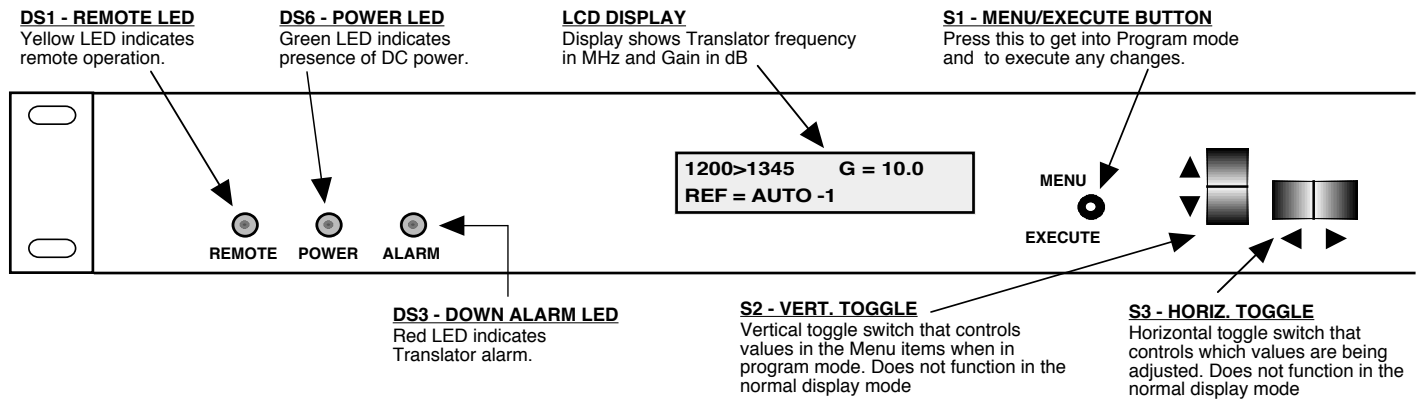

FIGURE 2.3 2083-1617 Front Panel Controls and Indicators
5. Be sure DS6 (green, DC Power) is on and DS (red, Alarm) is off (Figure 2.3).
Alarm indications appear on the LEDs (See figure 2.3).